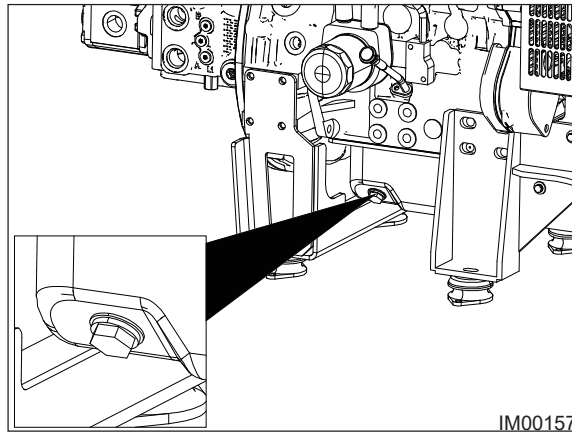

Fig: 11.13 - Engine Sump
5. Remove the Drain Plug (Fig: 11.13) from the engine sump and allow all of the oil to drain into the container.